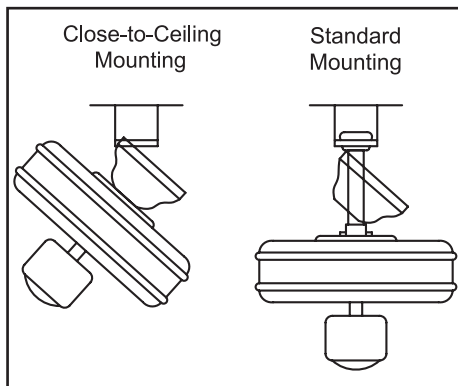

Figure 11
4. Carefully lift the assembly up to the ceiling mounting plate. If using close-to-ceiling mounting, hang the fan on the hook provided by utilizing one of the holes at the outer rim of the ceiling canopy (Figure 11). If using standard mounting, seat the hanger ball in the mounting plate socket. Make sure the tab on the mounting plate socket is properly seated in the groove in the hanger ball.
THE HOOK AS SHOWN IN FIGURE 11 IS ONLY TO BALANCE FAN WHILE ATTACHING WIRING. FAILURE TO HANG AS SHOWN IN FIGURE 11 MAY RESULT IN HOOK BREAKING, CAUSING THE FAN TO FALL. HOOK MUST PASS FROM INSIDE TO OUTSIDE OF CANOPY